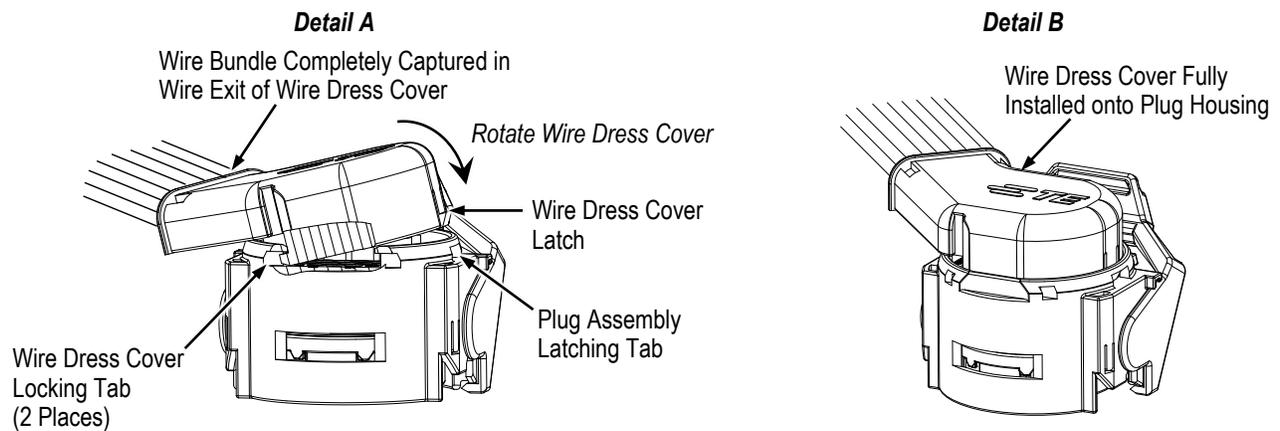

Figure 5
2. Align the locking tabs of the wire dress cover with the windows of the plug housing, and place the wire dress cover onto the plug housing. See Figure 5, Detail A.
3. Ensure that the wire bundle is completely captured within the wire exit of the wire dress cover and no wires are pinched between the plug housing and the wire dress cover, then rotate the wire dress cover, while maintaining pressure on the locking tabs, until the wire dress cover locks into place. There will be an audible click. Detail B in Figure 5 shows the wire dress cover fully seated onto the plug housing.